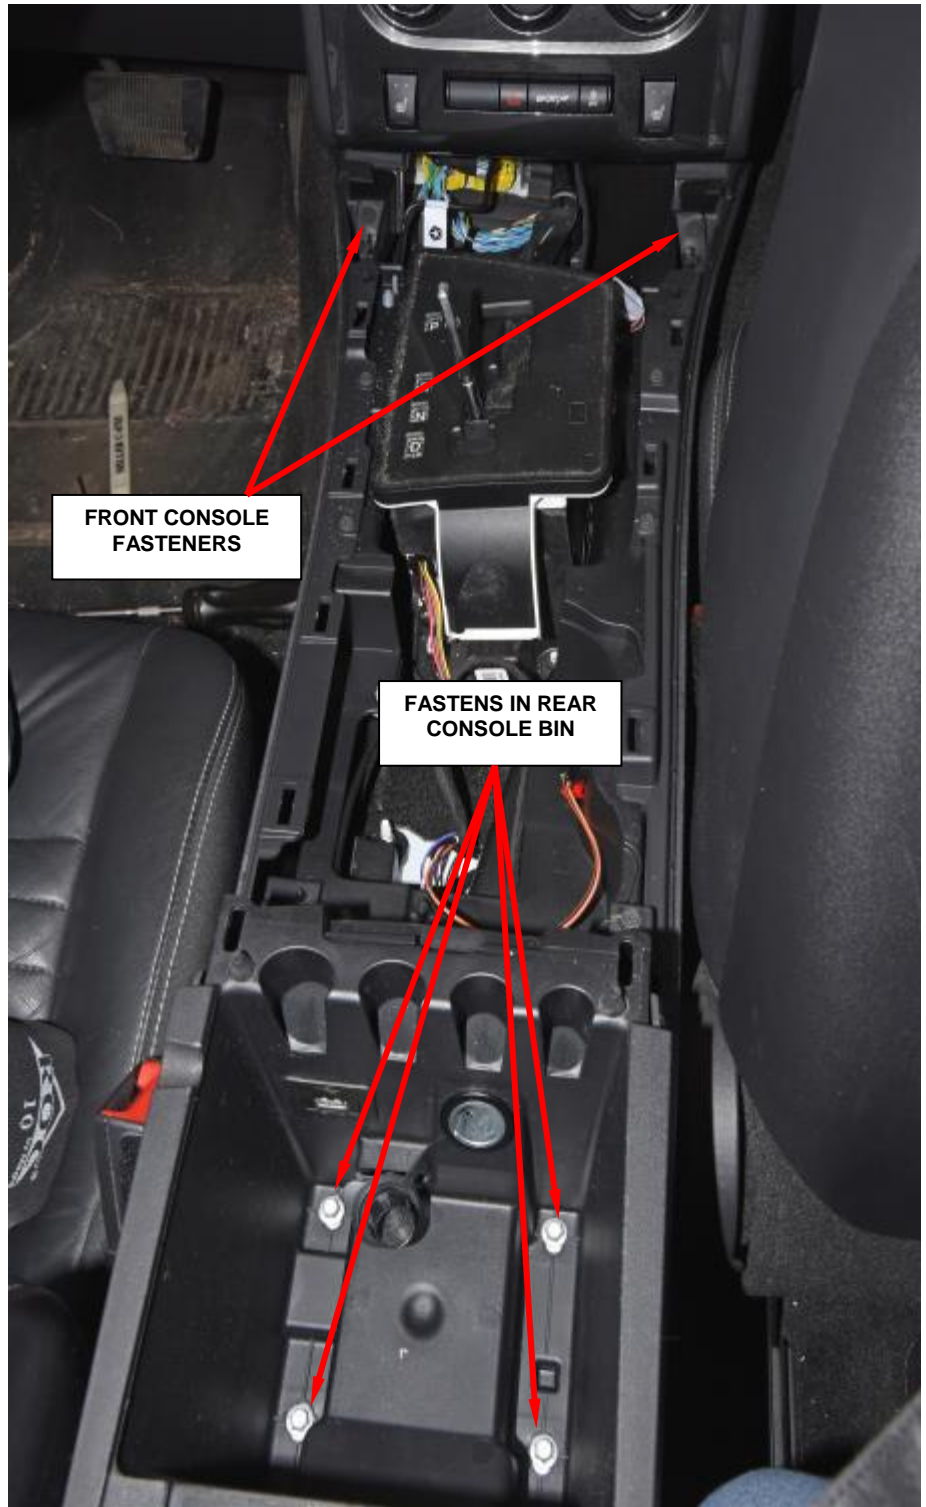

Figure 71 – Floor Console
13. Remove the four fasteners from the rear bin that secure the console to the floor panel transmission tunnel (Figure 71).
14. Remove the two fasteners that secure the front of the console to the instrument panel (Figure 71).